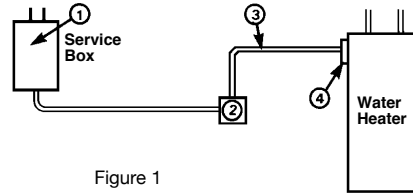
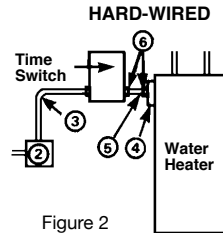
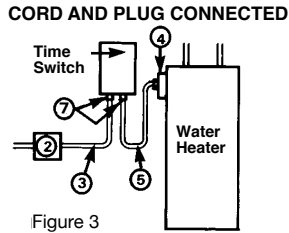

Figure 1
Figure 2
Figure 3
- Plan a convenient location for the Time Switch, preferably eye level (also out of reach of small children), and such that existing cable (Fig. 2 or Fig. 3, Item ③) may be utilized.
- Measure the distance ⑤ from the Time Switch to Water Heater Terminal Box ④. Also measure distance ③ from Time Switch to Junction Box if existing cable (Fig 2, Item
③) is too short. Allow for slack and 6 inches of hook-up leads at each end to facilitate wiring connections.
If your water heater is **HARD WIRED**: (See Fig. 2.)
If your water heater is **CORD and PLUG** connected: (See Fig. 3)
Remove the cover of water heater terminal box (Fig. 1, Item ④) **IS ELECTRICITY TURNED OFF?**
**NOTE COLORS OF WIRES.** Disconnect wires and cable connector. Remove the most convenient knockout of the time switch case and attach cable (Fig. 2, Item ③) and cable connector to case. Prepare another cable (Fig. 2, Item ⑤) by stripping the ends of wires about half inch. Using cable connector (Fig. 2, Item ⑥), attach this cable to water heater terminal box and then the wires to water heater terminals.
**NOTE: If you had green and / or white wires in the terminal box before, you must connect the same colors to these same terminals. TIGHTEN TERMINAL SCREWS FIRMLY.** Remove another knockout of the time switch case and connect the other end of this cable to the case, using the other cable connector, Item ⑥.
Remove plug at end of water heater cord (Fig. 1, Item ③). Split cord about 6 inches and strip wire ends 1/2 inch. Remove the most convenient knockout of the time switch case. Install strain relief grommet (Fig. 3, Item ⑦) and attach cord to case as shown. Next, install strain relief grommet to the other cordset (Fig. 3, Item ⑤) and attach cordset to case as shown.